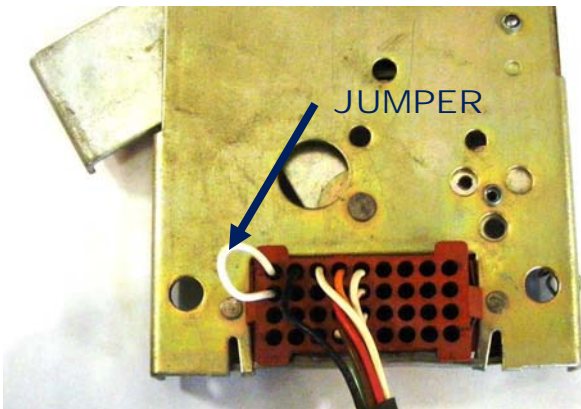
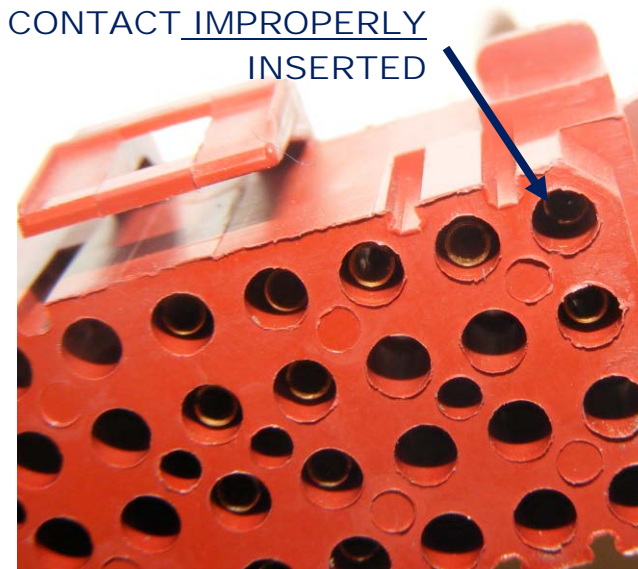

FIGURE 4, REAR VIEW OF EXISTING BRACKET SHOWING INSERTION OF JUMPER FOR FRAMES GREATER THAN 2000A
FIGURE 5, CLOSE-UP VIEW OF CONNECTOR SHOWING CONTACT NOT FULLY INSERTED
4.9. Figure 4 shows a rear view of the existing mounting bracket with the supplied jumper inserted. It is critically important that the jumper snaps into place so that it cannot be pulled out. When properly installed, the contacts of the jumper should be flush with the contacts already on the connector. Figure 5 shows this connector not inserted fully. Failure to fully jumper contacts can result in nuisance trips.